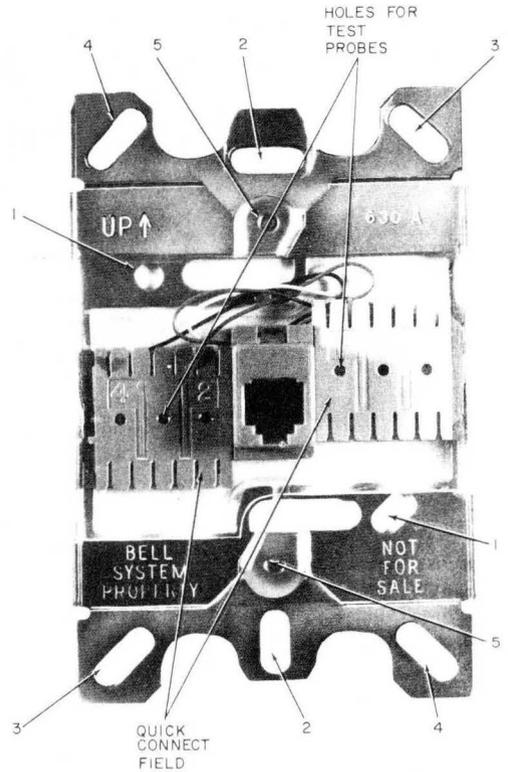

Fig. 8—630A4 Connecting Block (Current Model Without Mounting Plate)◆
- (a) A fastener package is provided with the 630A4 connecting block consisting of two 3/16-inch 800413577 (P-41357) cover mounting screws, two 5/16-inch 840705008, and two 1-1/8 inch 841065529 flathead machine screws. Depending on mounting arrangement, select proper fasteners from Table B and mount connecting block using holes designated in Fig. 8. The connecting block should be straight before tightening screws.
4.01 The 630A4 may be used with exposed or concealed station wire. Each quick-connect terminal (total of four) provides three station wire terminations per lead. One termination is required for the jack conductor. An access for a test point is also provided (Fig. 8).